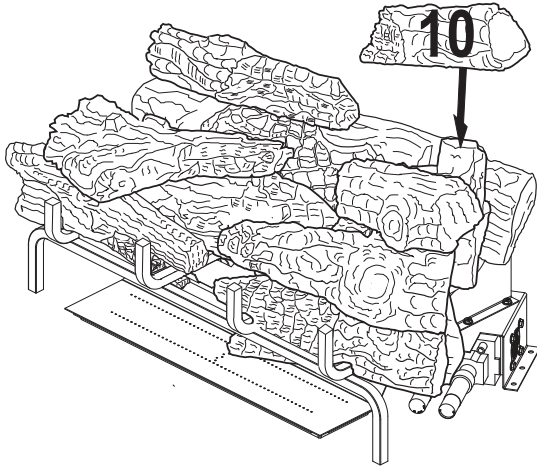

Figure 30 - Installing Log # 10
- Place the right rear top log (#10) on top of the right rear chunk log (#7) as shown in **Figure 30, Page 20**. Match the rectangular peg on the top of the right rear chunk log (#7) with the rectangular hole on the bottom of the right rear top log (#10).